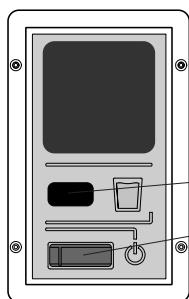

Fig. 10: Control panel AD 6, S-version
3. Turn off the dehumidifier via the mains switch. Then press the on/off switch **E-version** (Fig 9, Pos. 5), S-version (fig10, Pos. 2) on the control panel. If the dehumidifier is properly connected and the existing humidity is higher than the set humidity value (**only E-version**), the dehumidifier will start to operate. The final values of the humidistat, language and fan speed can be optionally taken (**only E-version**).
1. Turn off the dehumidifier at the on / off switch (Fig. 9, Pos. 5) and (Fig.10 Pos. 2).